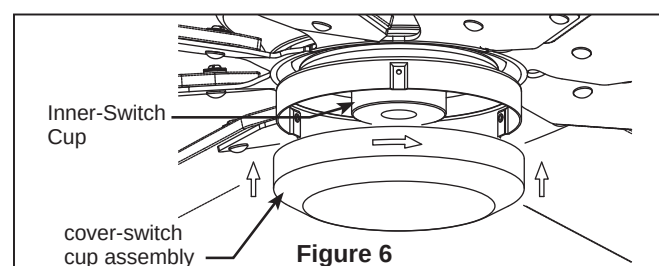

Figure 6
- ☐ 6. Reinstall the hanger ball on the downrod as follows. Route the two 80 in. wires through the hanger ball. Position the pin through the two holes in the downrod and align the hanger ball so the pin is captured in the groove in the top of the hanger ball. Pull the hanger ball up tight against the pin. Securely tighten the set screw in the hanger ball. A loose set screw could create fan wobble. (Figure 6)
6. Assemble the cover-switch cup assembly to the inner-switch cup by twisting in a clockwise direction. (Figure 6)
For this fan, switch should be in the "ON" position, allowing for dimming of the light. (Figure 6)
Over 80W protection: When the receiver detects motor power consumption which is greater than 80W, the receiver power will shutdown and fan operation will cease. Disconnect the power supply and after 5 seconds return-power on to the fan. (Figure 6)